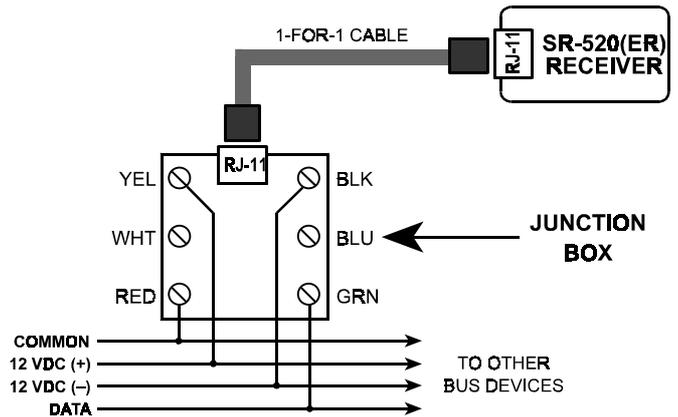

Figure 4-5. Using a Junction Box
- Identify the 4 wires of the bus and connect them to the numbered terminals within the junction box, maintaining the order required for correct patching (see Figure 4-5)
- Prepare an RJ-11-to-RJ-11 patch cord, long enough to bridge the distance between the bus junction box and the SR-520 (ER). Make sure a "one-for-one" configuration is obtained, whereby pin 2 is connected to pin 2, pin 3 to pin 3, etc.